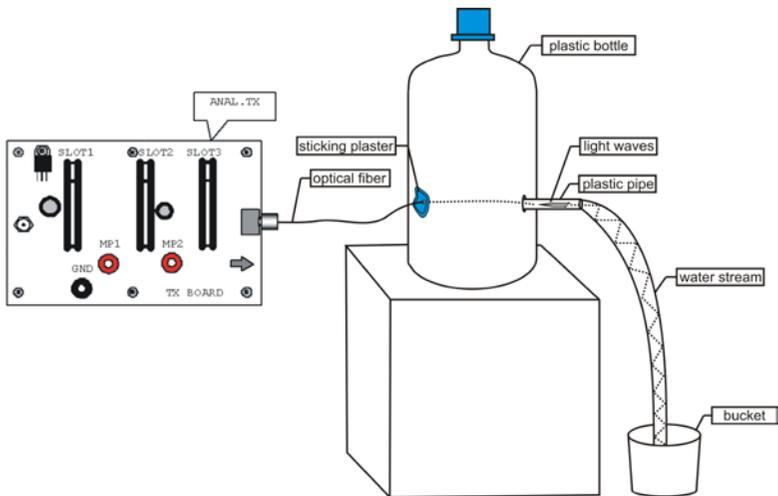

Figure 5: The set-up diagram of the Tyndall's experiment
8. Put down the bucket in front of the table, and place the plastic bottle at the edge of the table so the plastic tube is over the table and bucket is under the tube Figure 5.